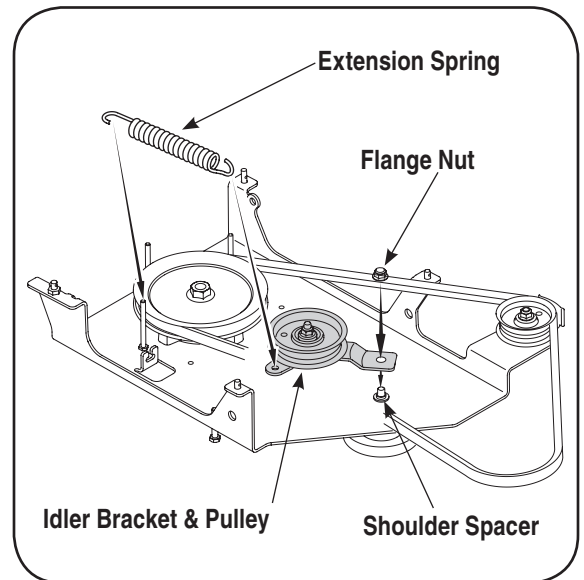

Figure 8
1. Remove the flange nut noted in Figure 8, which secures the double-idler bracket to the undercarriage. Leave the Shoulder Spacer in place.
2. Attach the idler assembly (packaged separately) over the hex screw and shoulder spacer on the surface of the undercarriage. See Figure 8.
3. Fasten the idler bracket to the undercarriage with the hardware just removed. See Figure 8.
4. Attach one end of the extension spring (732-0594A) to the hole in the idler assembly just mounted and the opposite end of the extension spring to the keeper pin as illustrated in Figure 8.